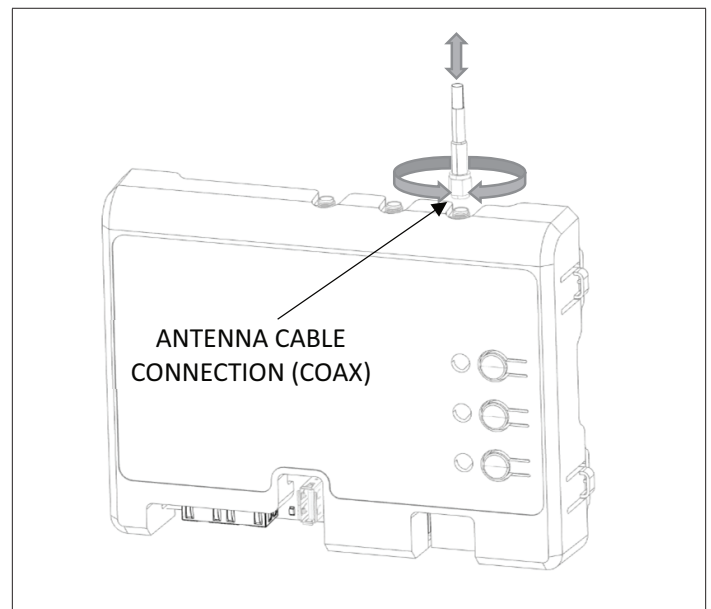

Figure 1. Antenna Connection
4. Disconnect the SMA male connector from the female connector on the W4 control (see "Figure 1. Antenna Connection").
4. Reconnect the antenna SMA male connector to the far right SMA female connector on the W4 control, then ensure a secure connection (see “Figure 1. Antenna Connection” on page 1)